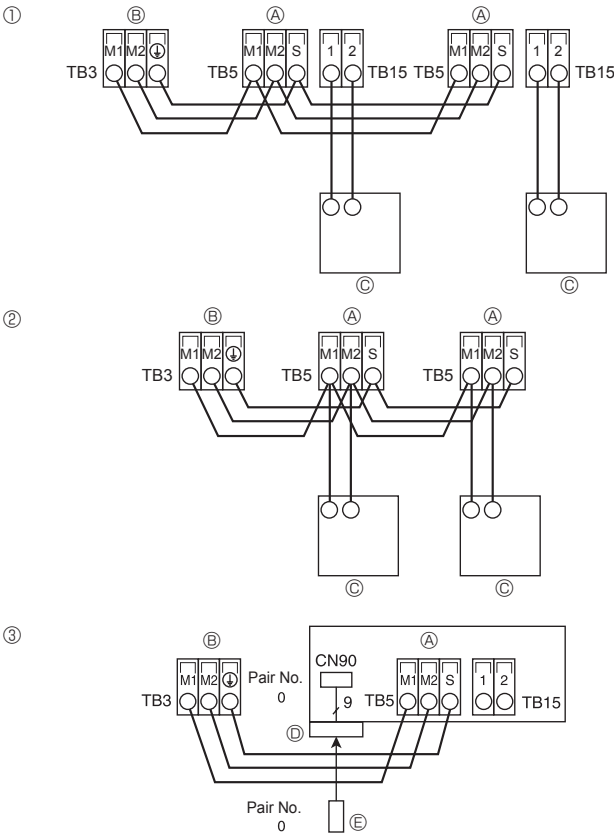

Fig. 5-9
5.5. Connecting remote controller, indoor and outdoor transmission cables (Fig. 5-9)